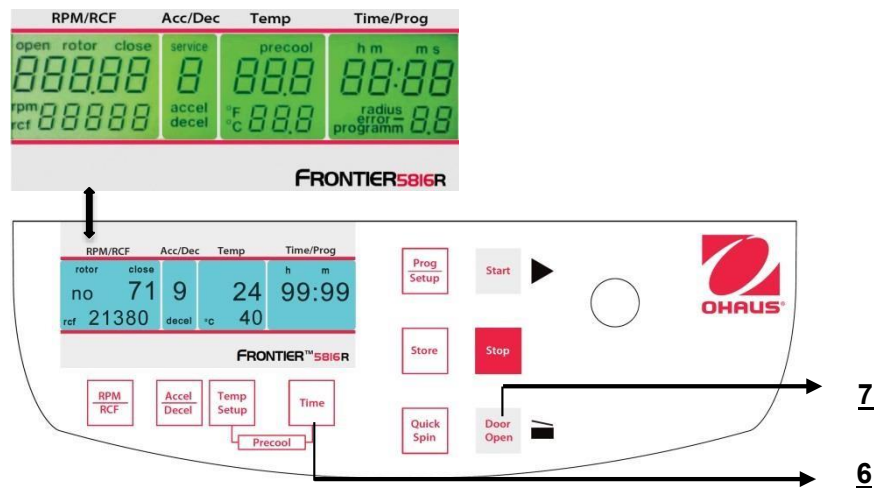

Figure. 32
While the centrifuge is turned off, press simultaneously the keys **"Time"**(6) and **"Door Open"** (7) and turn on the main switch of the centrifuge. Now release both keys and as a result a display test is executed for approx. 5 seconds. All indicators will appear at the same time (See figure 32).
Proceed as described under point 4.1.1 to enter this program mode and then press the key **"Accel/Decel"** (5). In the display **"Acc/Dec"** (A-2) the word **"Service"** flashes. Now select the letter **"L"** with the adjusting knob (1). As a result, the words **"On Sound"** appears in the display **"RPM | RCF"** (4). If you press the key **"RPM | RCF"** (4) now, the word **"On"** flashes and you can switch off the sound with the adjusting knob (1) (See figure 32).